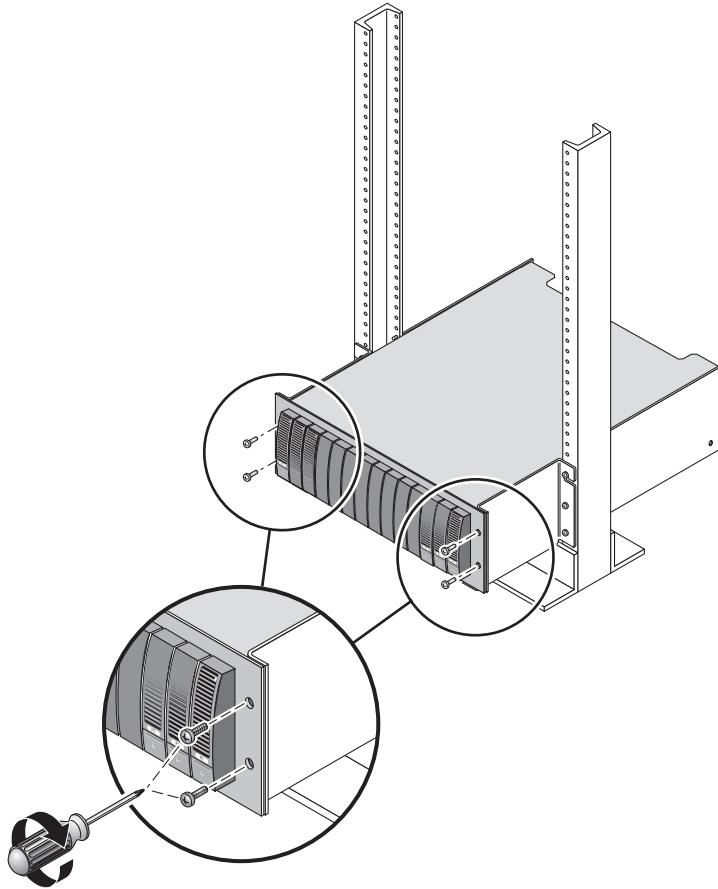

FIGURE 2-29 Securing the Tray to the Front of the Rack
4. Use the #2 Phillips screwdriver to insert and tighten four 10-32 screws (two per side) to secure the tray to the front of the rack (FIGURE 2-29).